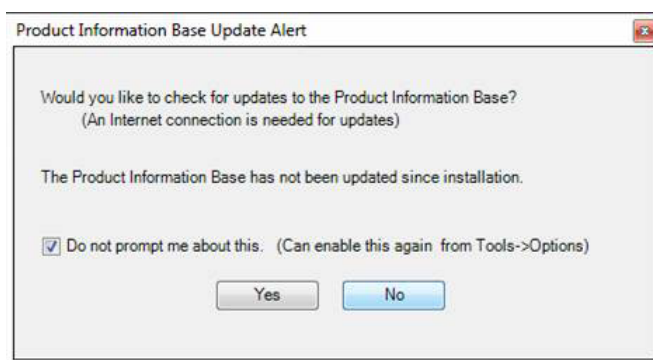

Figure 19 Check for Updates Screen
4. The next screen prompts for an update (Figure 19). Select **NO**.